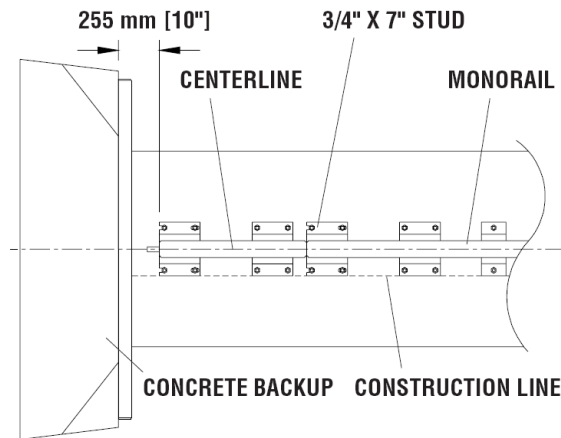

Figure 53
A) Monorail Placement for Concrete Backup (Figure 53)
Locate Monorail on foundation with side of Monorail on the construction line and rear edge of Monorail 10" forward of front face of Concrete Backup. Orient the Monorail so that the Monorail tongues face Backup (Figure 53).